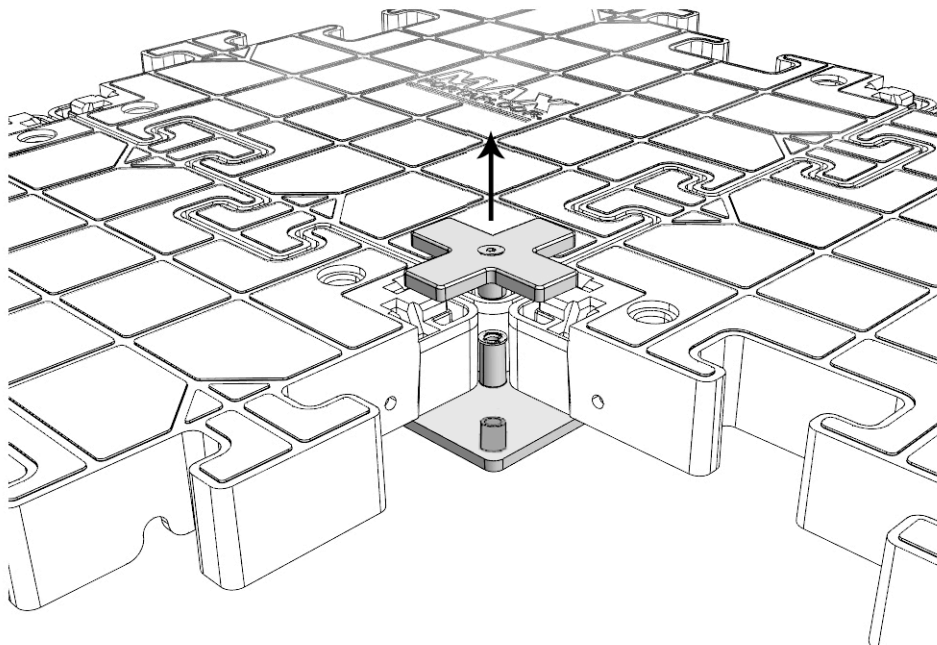

Figure 5
2. Remove the bolt and top lock piece. Please note that the bolt will stay connected to the top of the lock. panel (see Figure 5)